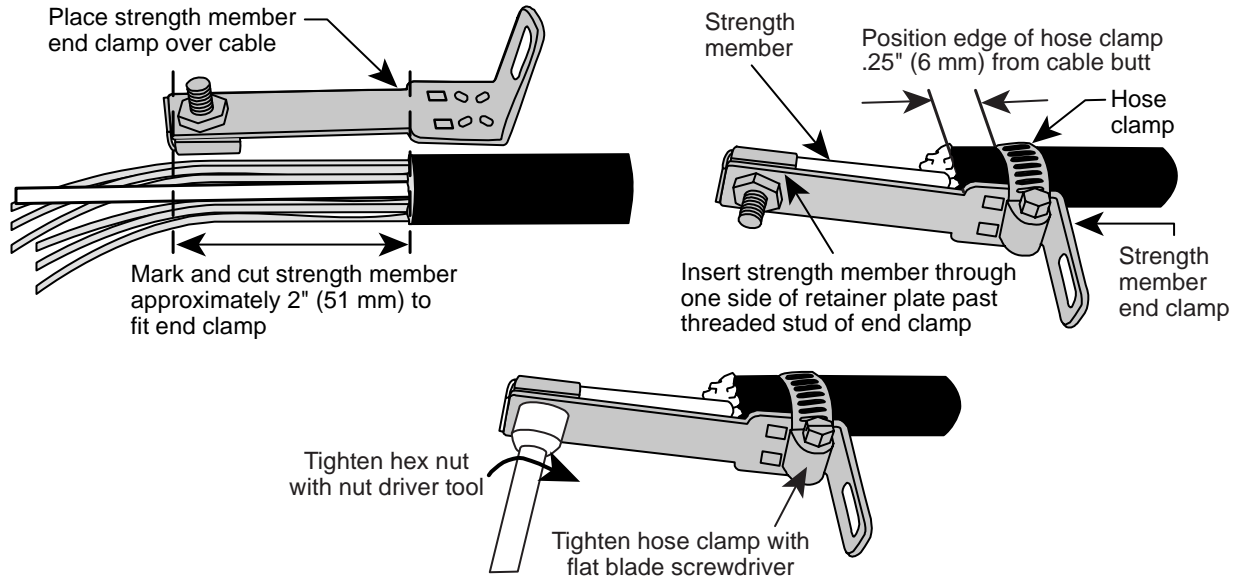

Figure 11
1. Lay the strength member end clamp along the cable as shown in Figure 11.
3. Insert strength member through one side of retainer plate. Then, tighten hex nut to secure strength member to end clamp (Figure 11).
4. Attach the hose clamp around end clamp and cable, and tighten fully (Figure 11).